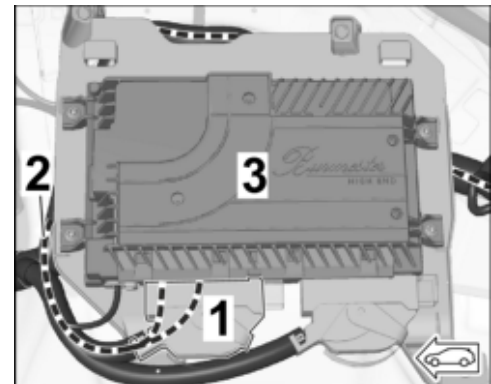

Figure 14
2.4.3 **ONLY** for Burmester sound system (9VJ): ⇒ *Figure 14*
Disconnect plug connection B (38-pin) to the Burmester amplifier. ⇒ *Figure 14 -1-*